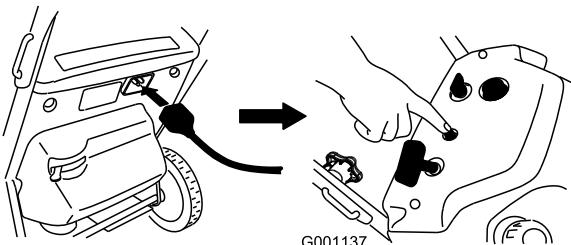
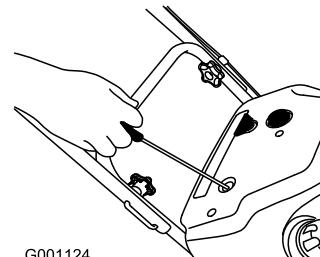

Figure 14
Figure 15
- Start the engine using either the electric-start button (Figure 14) or the recoil starter (Figure 15).